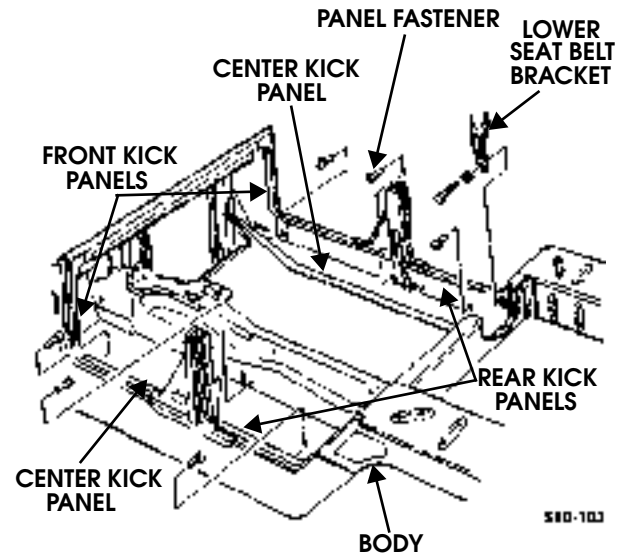

Figure 10-53: Outer Kick Panel Identification
2. Remove panel fasteners and right front outer kick panel from body (Figure 10-53).
1. Secure left and right rear outer kick panels to body with panel fasteners (Figure 10-53).